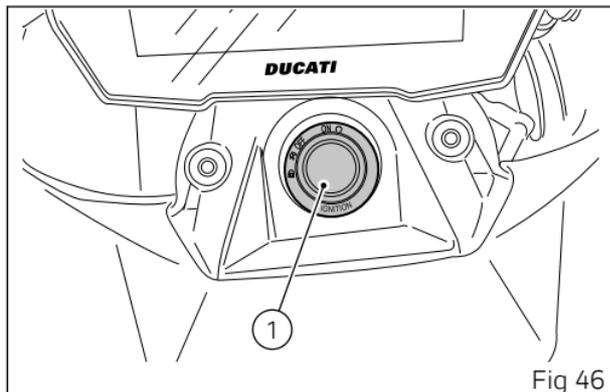
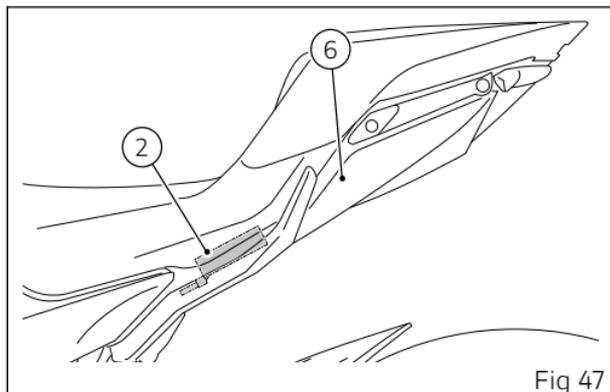

Fig 46
Fig 47
(Fig 46) indicates the position of the Hands Free block (1) and (Fig 47) indicates the position of the antenna (2) under the left-hand tail guard (6).